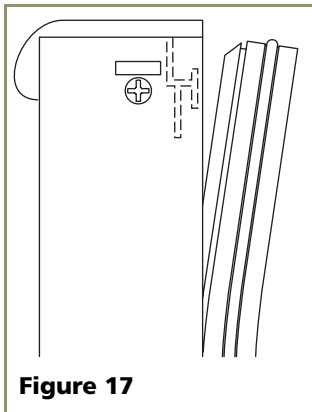

Figure 17
4. Remove two outside screws holding door handle. Slightly separate door handle from door (see **Figure 17**).